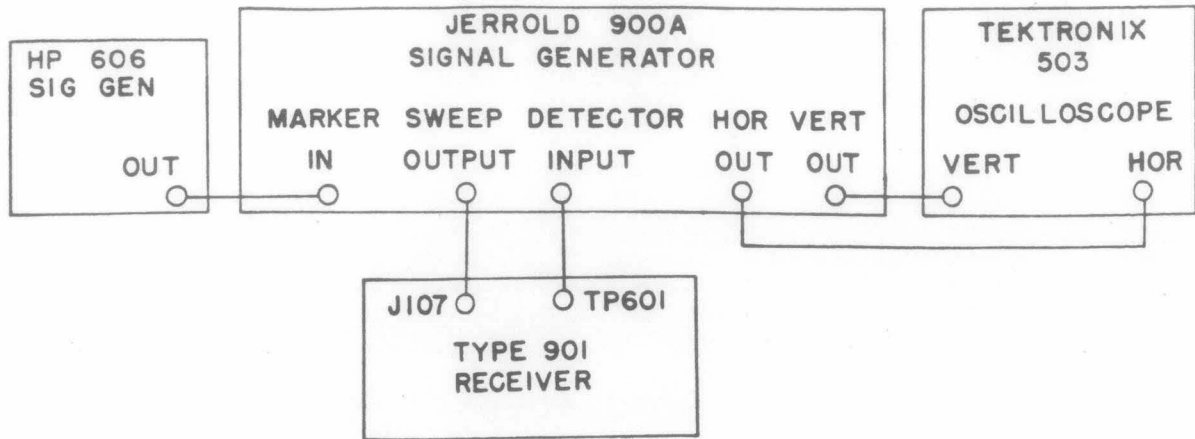
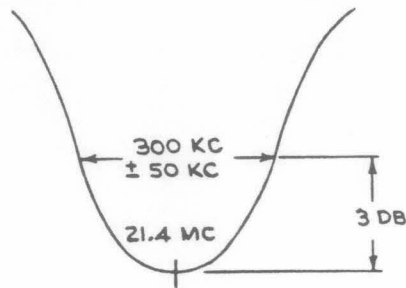
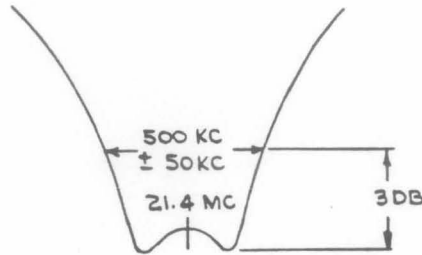
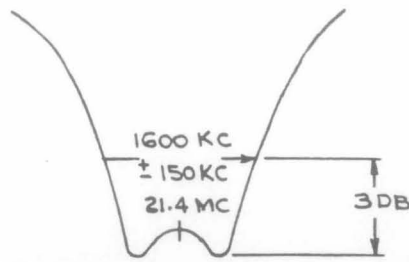

Figure 5-13. Type 901 Receiver, Equipment Setup, V601 to V602
Figure 5-14. Type 901 Receiver, Typical Response Curve, V601 to V602
Figure 5-15. Type 901 Receiver, Typical Response Curve, V602 to V603 Interstage Alignment
Figure 5-16. Type 901 Receiver, Typical Response Curve, V603 to V604 Interstage Alignment
- (1) Set up test equipment as shown in Figure 5-13.
- (2) Adjust Jerrold 900-A sweep generator near 21.4 mc for narrow sweep width with its detector switch at external detector position.
- (3) Set oscilloscope vertical sensitivity at 50 mv per cm and adjust sweep generator sweep width until a response curve is well displayed on oscilloscope screen.
- (4) Set receiver BANDSWITCH to 300 KC position.
- (5) Adjust C614 and C616 for a symmetrical response centered at 21.4 mc, as shown in figure 5-14.
(6) Using calibrated 21.4-mc signal from Hewlett-Packard 606A signal generator as a marker, check bandwidth by moving the marker along response curve. Bandwidth will be the frequency difference read from signal generator dial at points where marker intersects 3-db points of response curve, as shown in Figure 5-14.
- (1) Set up test equipment as shown in Figure 5-13 except that sweep output of sweep generator should be connected to pin 4 of V602.
- (2) By removing P601 from J601, disconnect IF strip from RF tuners.
- (3) Adjust Jerrold 900-A sweep generator near 21.4 mc for narrow sweep width with its detector switch at external detector position.
- (4) Set oscilloscope vertical sensitivity at 50 mv per cm and adjust sweep generator sweep width until a response curve is well displayed on oscilloscope screen.
- (5) Set receiver bandswitch to 300 KC position.
- (6) Adjust L605 and L606 for a symmetrical response centered at 21.4 mc, as shown in Figure 5-15.
- (1) Set up test equipment as shown in Figure 5-13 except that sweep output of sweep generator should be connected to pin 4 of V603.
- (4) Set receiver bandswitch to 300 KC position.
- (5) Adjust L607 and L608 for a symmetrical response curve centered at 21.4 mc, as shown in Figure 5-16.
- (6) Adjust C657 for dip in center of response curve, as shown in Figure 5-16.
- (1) Set up equipment as shown in Figure 5-13 except that sweep output of sweep generator should be connected to pin 4 of V603 and the detector input should be connected to the receiver's FM output, E602.